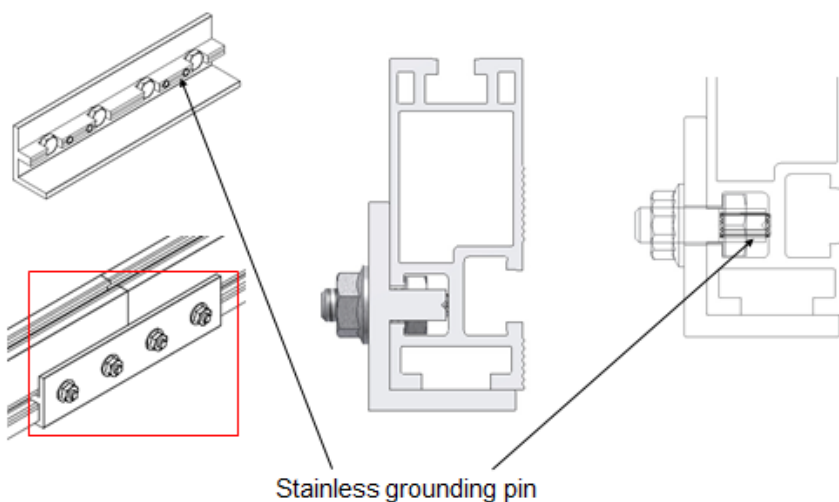

Fig. 14: A 4 bolt version of the self-grounding splice can be installed to join rail sections together.
- Thread the 1/4" (7/16" socket head) collar nut onto the top of the T bolt as shown in **Fig. 14** below. After positioning the end clamp firmly against the PV panel frame, **tighten to 7.5 ft. lbs.**